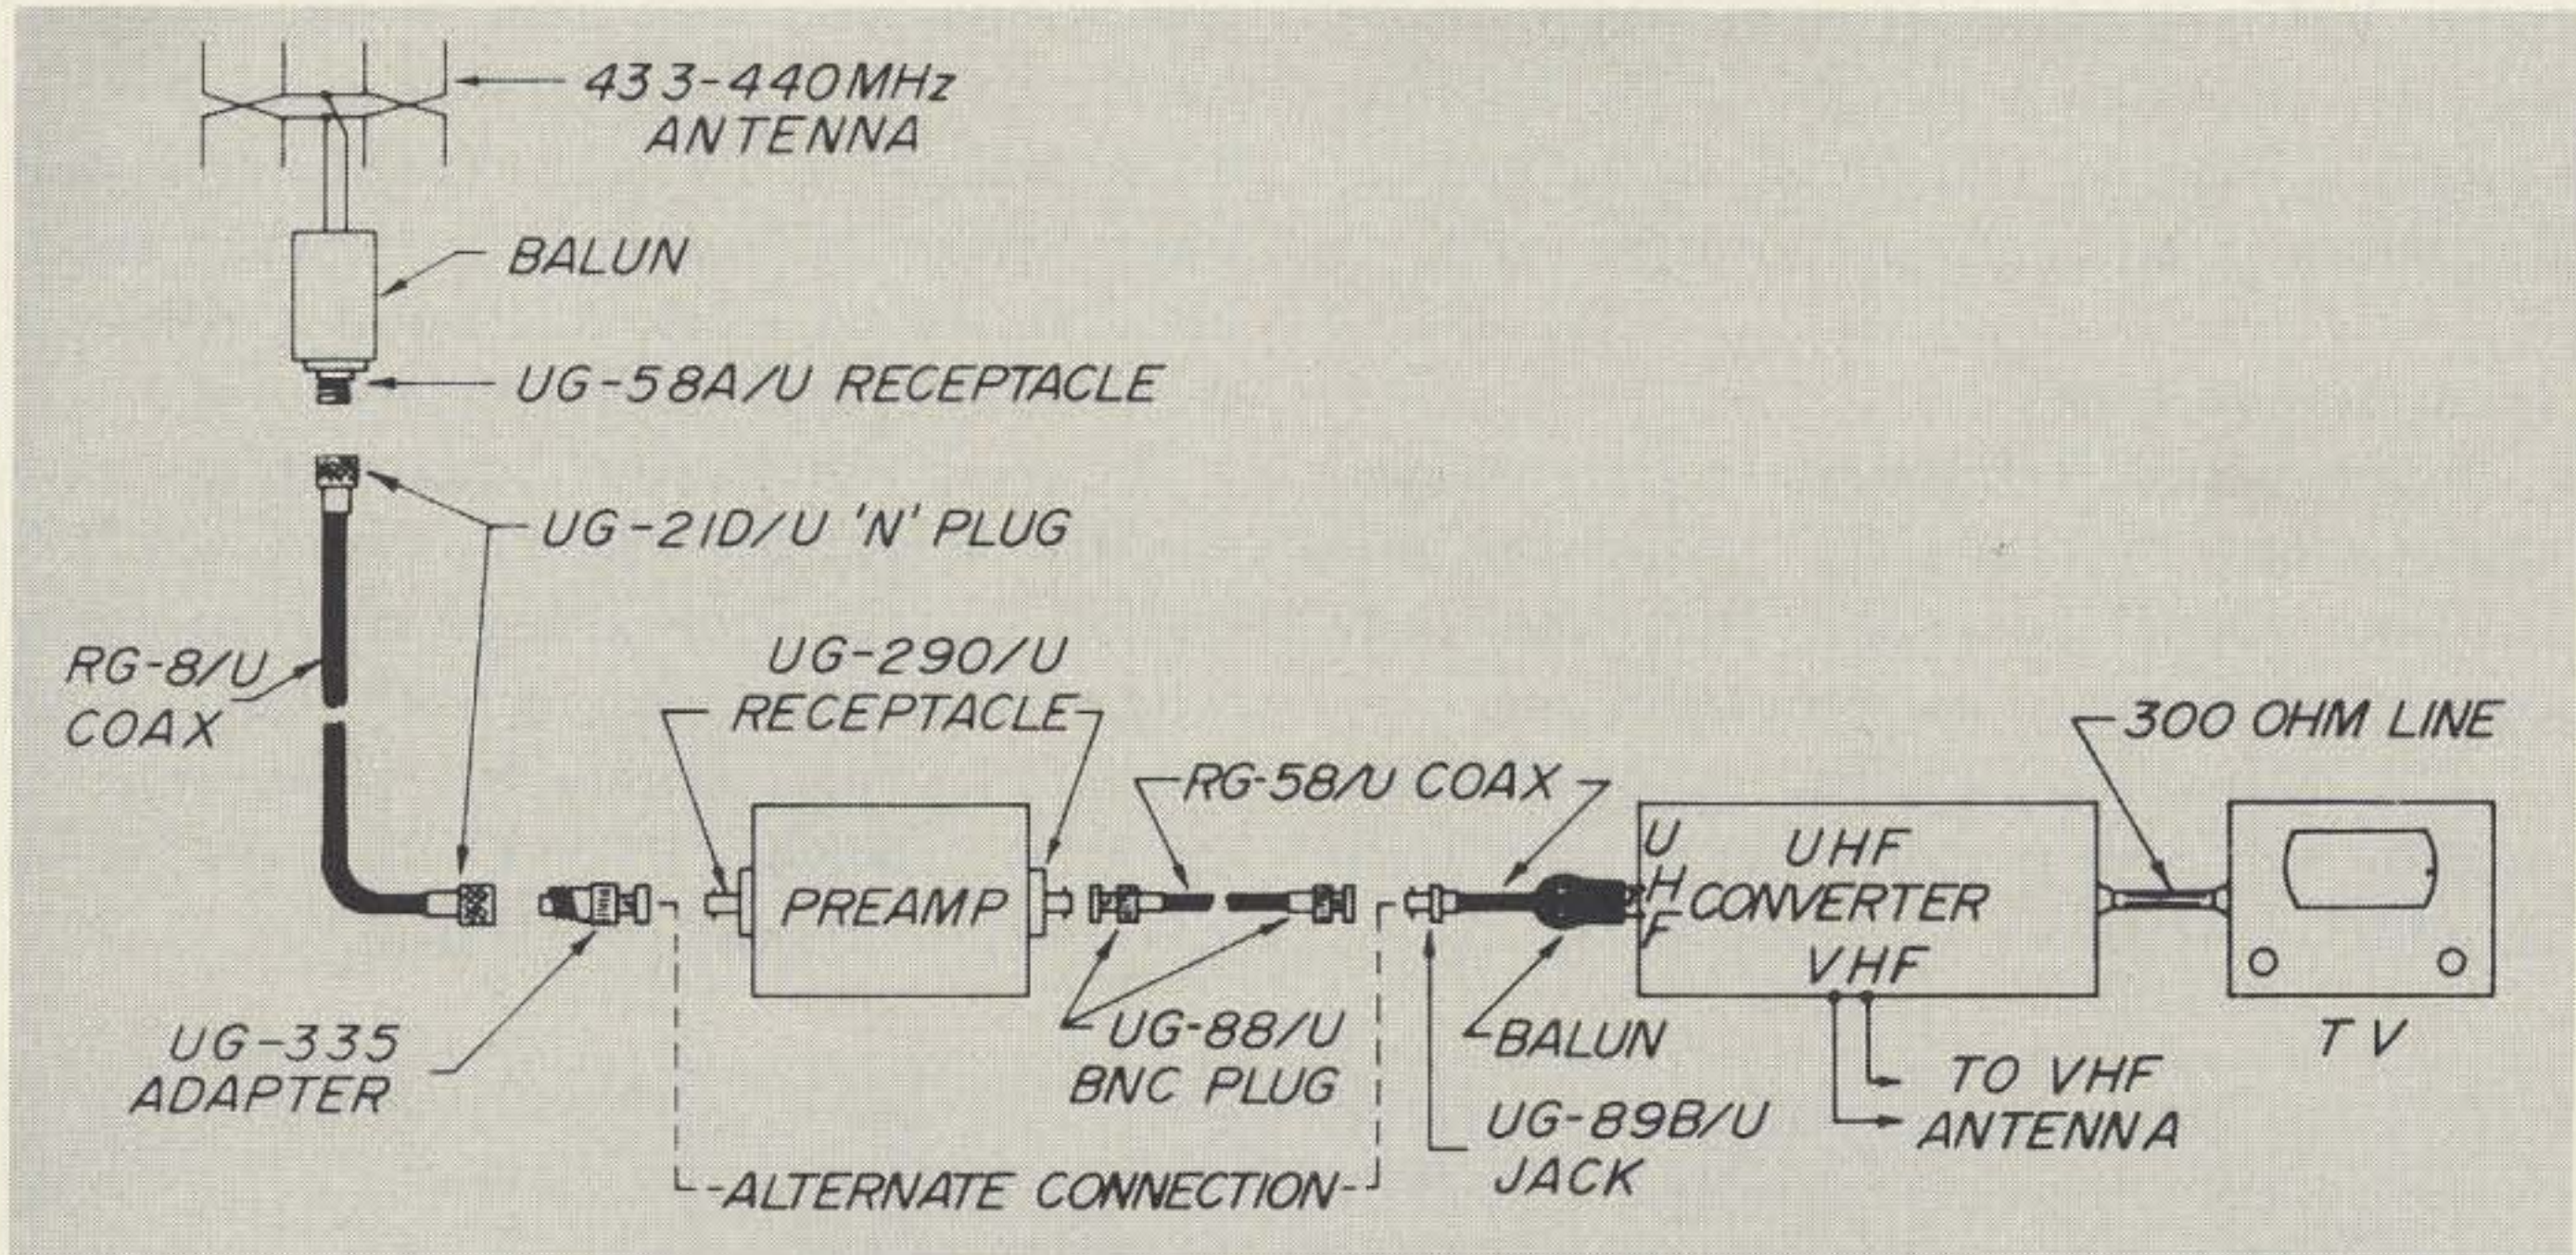

Fig. 1. Typical ATV receiving station.
Fig. 1. This schematic from the U.S. Navy's handbook of "preferred circuits," shows an emitter follower that provides 12 dB gain. A high series resistance should be used between the discriminator and the audio input to prevent circuit loading.
The transistor equivalent of a cathode follower is the emitter follower, which will do anything a tube can do. The circuit in Fig. 1 shows an emitter-follower audio circuit that should prove ideal for repeaters with 28V dc control. (I always use -28V for repeater control because of the availability and economy of surplus 24-28V relays, and because the -28V power source can double as a transmitter bias supply.)
As can be seen in Fig. 1, a typical ATV receiving station consists of a homebrew
- 7) Disconnect UHF antenna from converter and connect balun made of RG-58/U cable as shown in Fig. 1 and 3 to UHF input of converter. Connect $\frac{3}{4}$ meter antenna to balun. This is necessary since broadcast UHF antennas are not efficient on $\frac{3}{4}$ meter and are horizontally polarized.